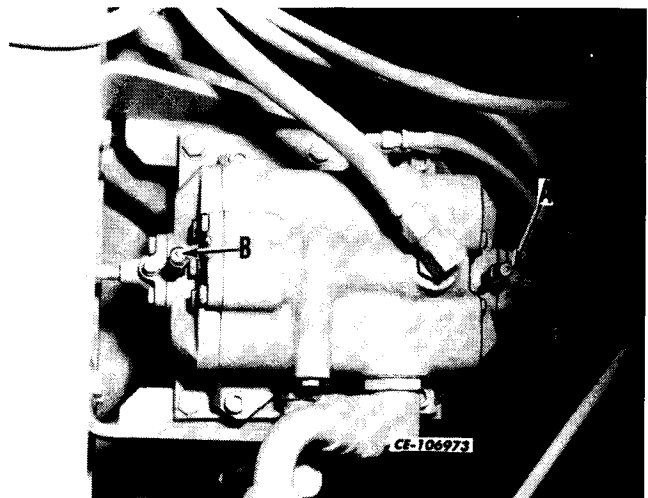

Fig. 42. Steering Valve
3. Remove the rubber cap and connect bleeder hose to plug (A, Fig. 42) on the steering valve. Turn the steering wheel to the right from 6 to 12 turns until all air has escaped. Disconnect the hose while still turning the steering wheel to the right. Install the cap.
5. Remove the rubber cap and connect bleeder hose to plug (B, Fig. 42) on the steering valve. Turn the steering wheel to the left from 6 to 12 turns until all air has escaped. Disconnect the hose while still turning the steering wheel to the left. Install the cap.